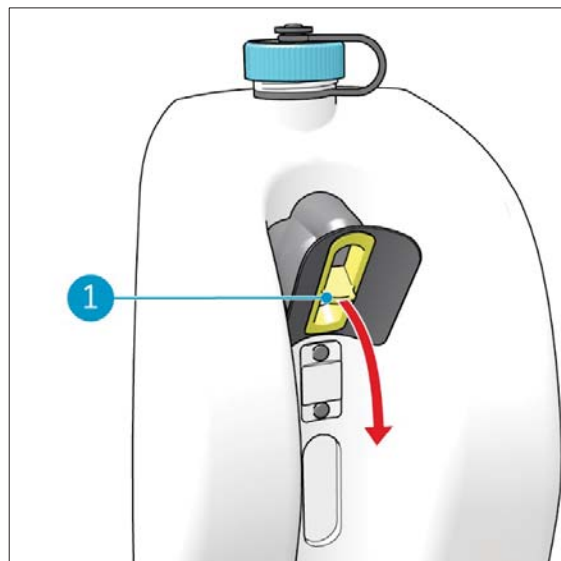

Figure 29
3. Grab the support frame of the ball float shutoff assembly (Figure 29, pos 1) between your index finger and your thumb and pull it outwards.
13. Place the ball float shutoff assembly back in the recovery tank, see Figure 29. Make sure that the support frame and rubber housing sit flush on the tank and seals it.